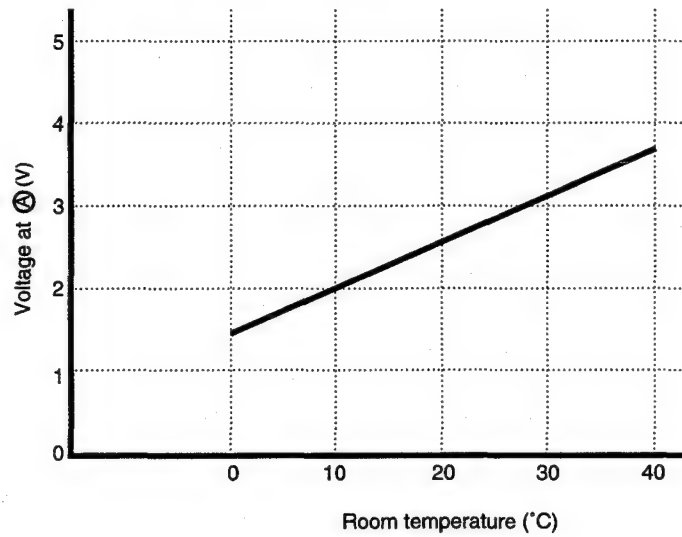

Fig. 5-2
- The voltage at ① depends on the room temperature as shown in Fig. 5-2.